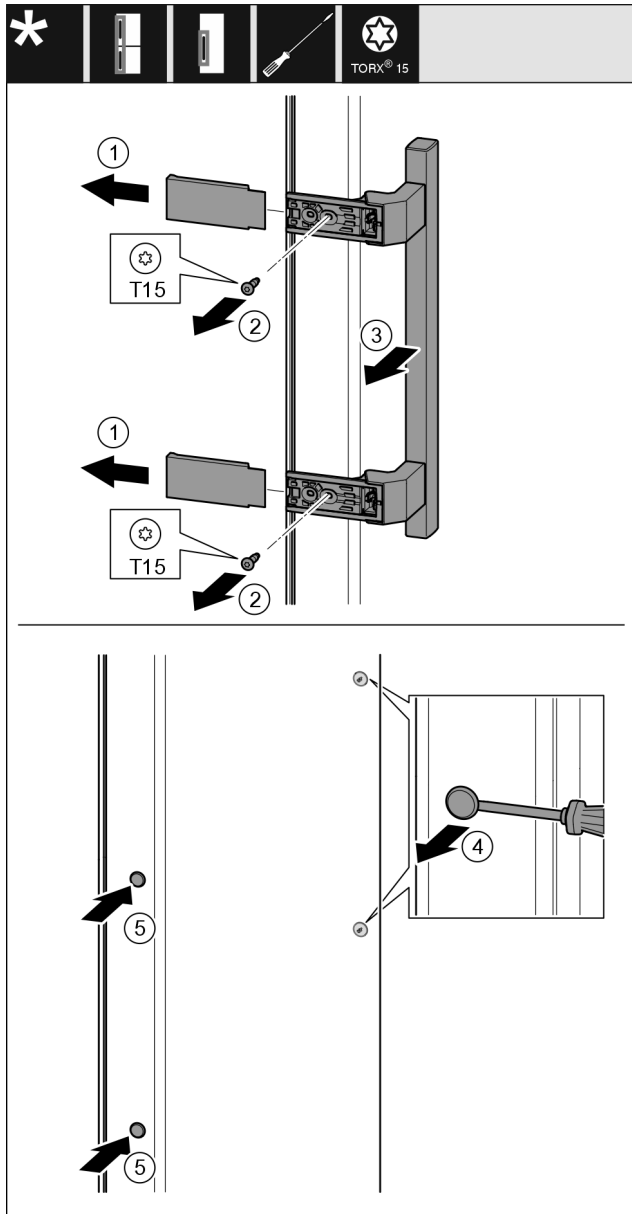

Fig. 20
- Remove the cover *Fig. 20 (1)*.
- Unscrew screws *Fig. 20 (2)* with screwdriver.
- Remove the handle *Fig. 20 (3)*.
- Use a slotted screwdriver to lift the side plug *Fig. 20 (4)* carefully and pull it out.
- Re-insert the plug *Fig. 20 (5)* on the other side.